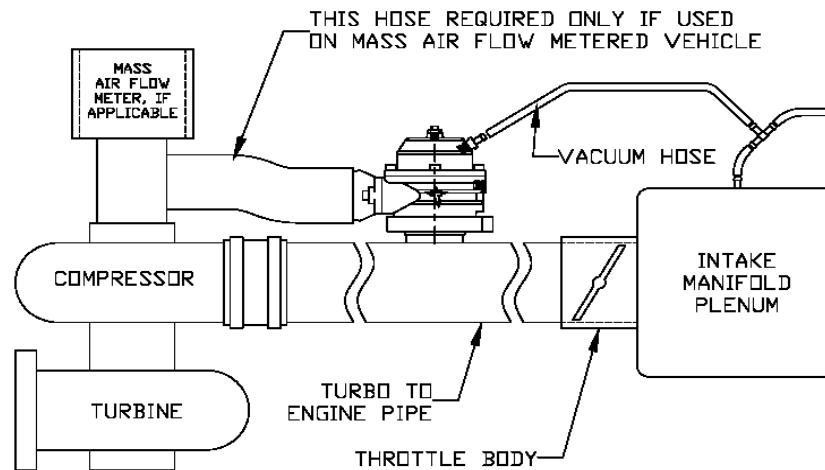

Figure 1
1. The Godzilla bypass valve can be installed in any position or orientation between the turbocharger compressor discharge and the throttle body per Figure 1. Considerations:
**Note:** On engines that have a mass air meter upstream of the compressor, the discharge must be plumbed back into the inlet tube after the mass air flow meter. (See Figure 1)
9. Refer to the hose schematic in Figure 1. Locate any convenient & available vacuum hose on the engine's intake manifold plenum (must be approx. 5/32" inside diameter), located downstream of the throttle body. Cut the engine's vacuum hose, splice in the supplied Tee fitting, and connect the supplied 5/32" Vacuum Hose from the 3rd leg of the Tee fitting to the fitting on the backside of the Valve. Care should be taken in routing the Vacuum Hose through the engine bay to prevent damage from any sharp edges or excessive temperatures. Cut the Vacuum Hose to length as needed, and secure the hose to the fittings with zip ties.
11. Refer to Note 1 and the hose schematic in Figure 1. In applications that require the Valve discharge air to be re-circulated, a 2.0" inside diameter flexible hose (to be sourced by the end-user) must be installed between the Valve (Hose Insert) discharge and the MAF-meter-pipe. Secure this hose with band-style hose clamps.